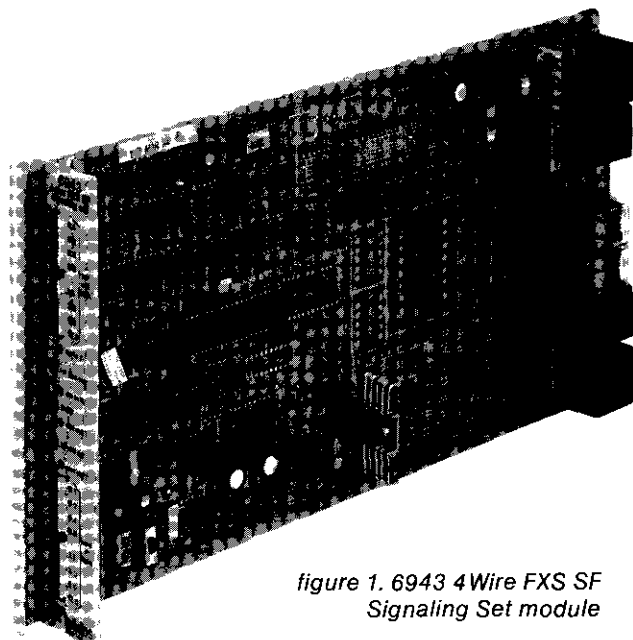

figure 1. 6943 4Wire FXS SF Signaling Set module
1.01 The 6943 4Wire FXS (Foreign-Exchange, Station-End) SF Signaling Set module (figure 1) provides signaling and transmission interface between a 4wire facility that uses single-frequency (SF) signaling and a 4wire metallic link that uses the type of loop signaling normally associated with the station end of a foreign-exchange (FX) or off-premises-station (OPS) circuit. Specifically, in addition to providing full-duplex conversion between the SF signaling on the 4wire facility and the FXS signaling on the 2wire link, the 6943 contributes passive level control (attenuation) in both the transmit and receive channels and bump-type amplitude equalization in the transmit channel. Conventional 2600Hz SF tone is standard; other frequencies are optionally available by special order.